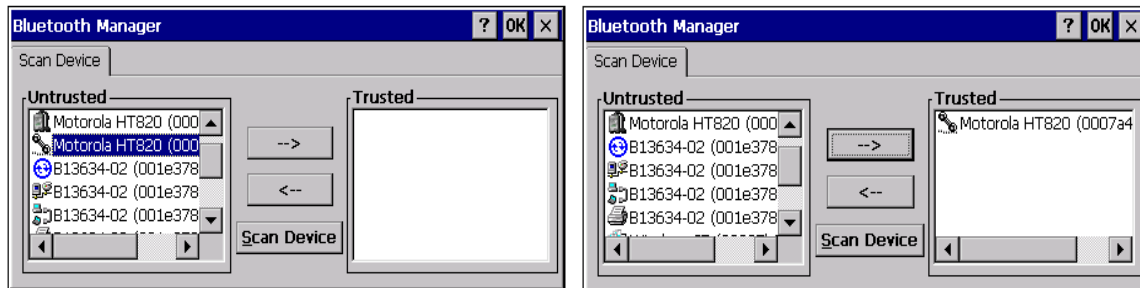

Figure 4-2. Bluetooth A2DP Test
4. If your headset is scanned, a dialog box appears in top left of the screen. Quickly enter the default password “0000” in the Authentication Request dialog box for your Bluetooth headset, then click OK. In the Bluetooth Manager window, you will see your Bluetooth headset item, as in Figure 4-2.